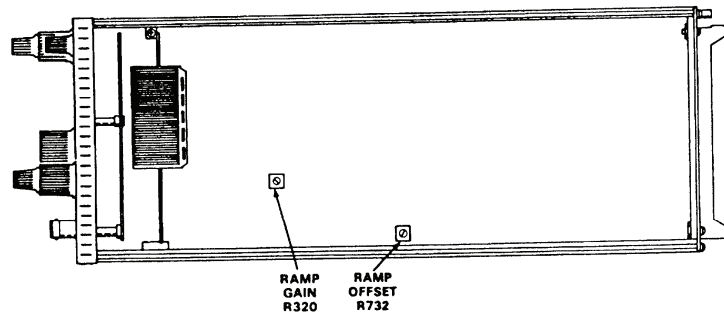

Figure 5. Tektronix, Type 7D20 right side view - adjustment locations.
- ca.** The **FAST RAMP TEST/ * SERVICE ONLY *** and **GAIN COUNT** will be displayed (flashing) on TI. TI display **GAIN** will indicate between 99.7 and 100.3; if not, adjust **RAMP GAIN R320** (fig. 5) for **GAIN** indication of **100.0**.
- ck.** Press **TRIGGERING/MODE AUTO**, **TRIGGERING/COUPLING DC** pushbuttons. TI display **CURSOR** dot indication will be within **2 vertical divisions** of center graticule line; if not, adjust **RAMP OFFSET R732** (fig. 5) so **CURSOR** dot is within **1 vertical division** of center graticule line.
Adjustment of **RAMP OFFSET R732** affects the adjustment setting of **RAMP GAIN R320** (fig. 5). Repeat **bu** through **ca** above.